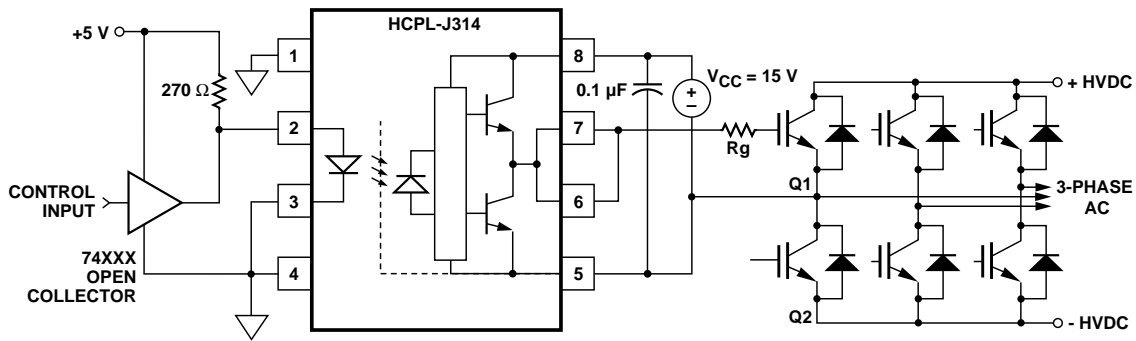
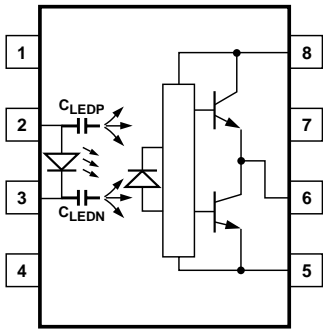
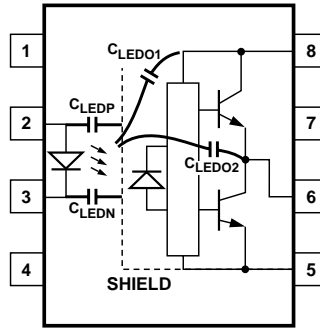

Figure 19. Recommended LED Drive and Application Circuit for HCPL-J314.
Figure 21. Optocoupler Input to Output Capacitance Model for Unshielded Optocouplers.
Figure 22. Optocoupler Input to Output Capacitance Model for Shielded Optocouplers.
the HCPL-J314 on a small PC board directly above the IGBT) can eliminate the need for negative IGBT gate drive in many applications as shown in Figure 19. Care should be taken with such a PC board design to avoid routing the IGBT collector or emitter traces close to the HCPL-J314 input as this can result in unwanted coupling of
Step 1: Calculate R_g minimum from the I_{OL} peak specification. The IGBT and R_g in Figure 19 can be analyzed as a simple RC circuit with a voltage supplied by the HCPL-J314.
where $K_{ICC} \cdot Q_g \cdot f$ is the increase in I_{CC} due to switching and K_{ICC} is a constant of 0.001 mA/(nC·kHz). For the circuit in Figure 19 with I_F (worst case) = 10 mA, R_g = 32 Ω, Max Duty Cycle = 80%, Q_g = 100 nC, f = 20 kHz and T_{AMAX} = 85°C:
Without a detector shield, the dominant cause of optocoupler CMR failure is capacitive coupling from the input side of the optocoupler, through the package, to the detector IC as shown in Figure 21. The HCPL-J314 improves CMR performance by using a detector IC with an optically transparent Faraday shield, which diverts the capacitively coupled current away from the sensitive IC circuitry. However, this shield does not eliminate the capacitive coupling between the LED and optocoupler pins 5-8 as shown in Figure 22. This capacitive coupling causes perturbations in the LED current during common mode transients and becomes the major source of CMR failures for a shielded optocoupler. The main design objective of a high CMR LED drive circuit becomes keeping the LED in the proper state (on or off) during common mode transients. For example, the recommended application circuit (Figure 19), can achieve 10 kV/μs CMR while minimizing component complexity.
$+dV_{CM}/dt$ transient, since all the current flowing through C_{LEDN} must be supplied by the LED, and it is not recommended for applications requiring ultra high CMR1 performance. The alternative drive circuit which like the recommended application circuit (Figure 19), does achieve ultra high CMR performance by shunting the LED in the off state.